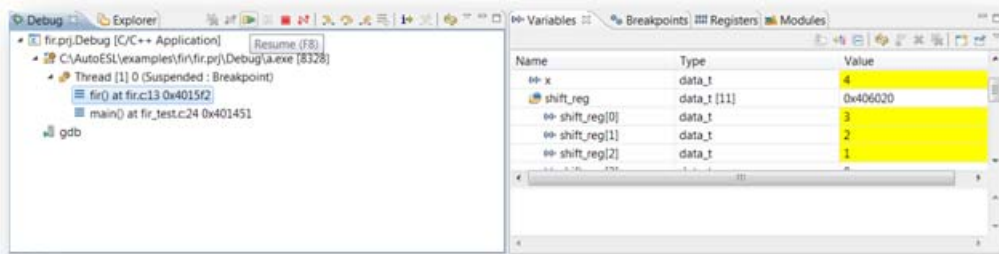

Figure 3-11: Review the Operation of the C Code
10. Open the Variables tab (see Figure 3-11).
11. To execute the code until the next breakpoint (the debugger will stop each time it reaches line 13), click the **Resume** button or press key **F8** (see Figure 3-11).
12. To see the shift register update, adjust the **Variables** window to view the `shift_reg` variable (see Figure 3-11) and click the **Resume** button multiple times.